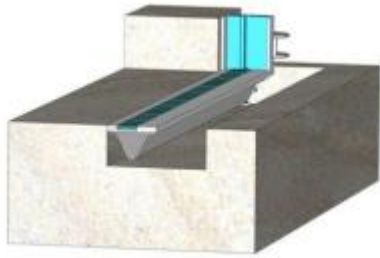

Fig. 8
- The bottom profile, if existent, requires onsite embedding with filler or mortar acc. Fig. 8. When filling these recesses never use any vibrators! Bottom and transverse seal profile shall be free of any concrete or other contamination.